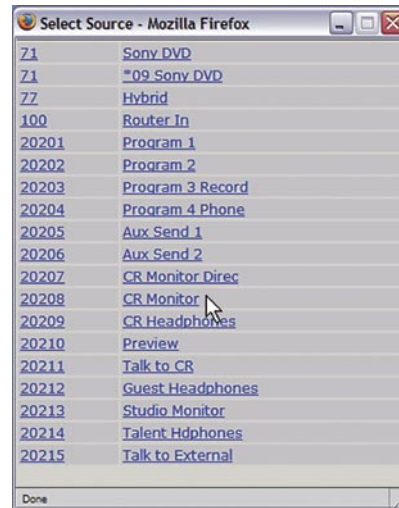

Figure 3-5: GPIO Select Source popup list
4. When you click on any list icon, a small popup window will open (Figure 3-5), enumerating all of the audio sources available on the Livewire network. Choose the source you wish to associate with a GPIO port by clicking on it; the window will close and the source’s name and channel number will appear in the **Channel** box.